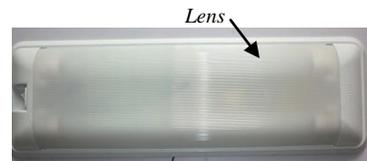

Figure 1 - Typical 12 Volt Fluorescent Tube Fixture
1. *Figure 1* depicts a typical 12 volt fluorescent fixture. With the 12 volt power disconnected or circuit breaker turned off, remove the fixture diffuser (cover).